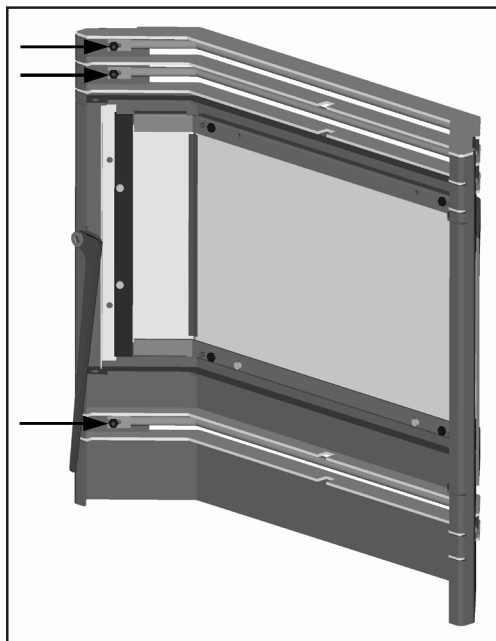

Figure 37: Door with louvers.
Door must be open. The three (3) arrows in Figure 37 point to three (3) of the nuts that hold the louvers on. There are three nuts on each end. Remove the six nuts by hand; if the nuts are tight, a $1\frac{1}{32}$ " socket can be used. When removing the louvers, pull one end of the louver up over the stud. If it is difficult to remove the louver, push on one side from the front, then pull the other end off the second stud.